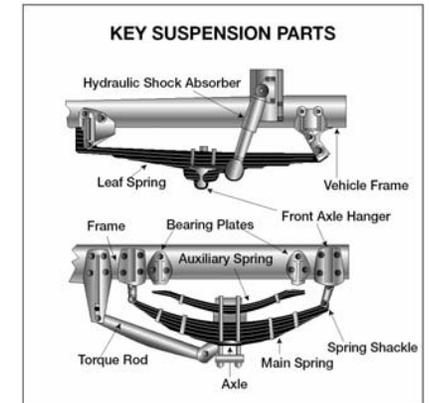

FIGURE 2.2
- Spring hangers that allow movement of axle from proper position. See Figure 2.2.